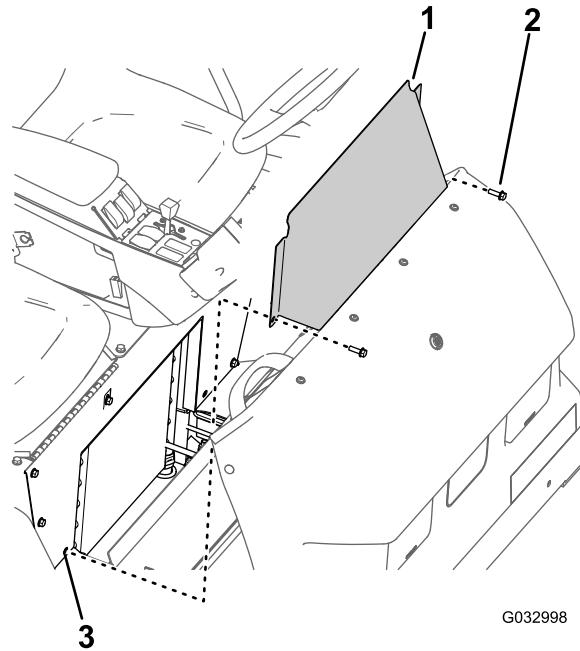

Figure 64
1. Remove the 2 flanged-head bolts that secure the seat-base-access panel to the seat base (Figure 64).
2. Remove the seat-base-access panel from the machine (Figure 64).
1. Align the holes in the seat-base-access panel with the holes in the seat base (Figure 64).
2. Assemble the seat-base-access panel to the seat base with the 2 flanged-head bolts (Figure 64) that you removed in step 1 of Removing the Seat-Base-Access Panel \(page 52\).